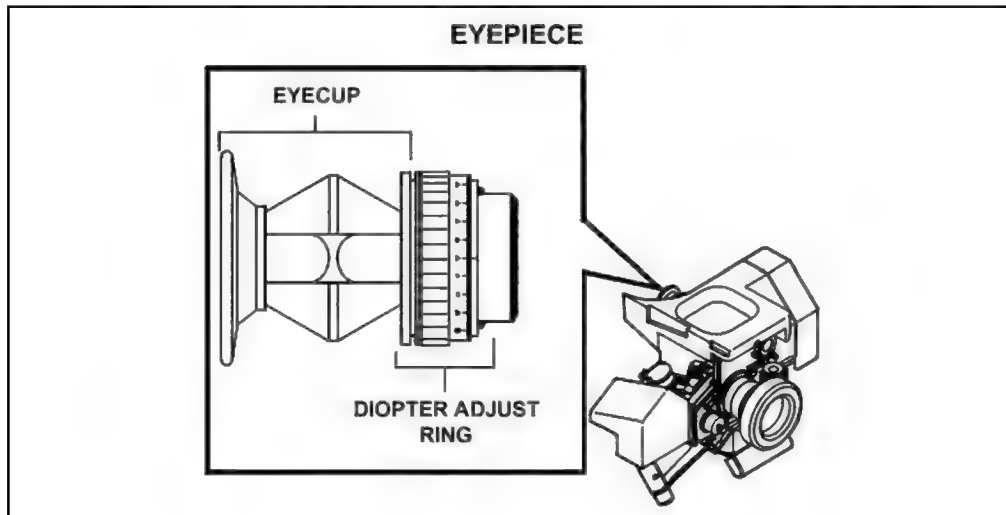

Figure 1-14. Eyepiece.
(4) The eyepiece (Figure 1-14) allows the gunner to see the CLU display. Through the eyepiece, the gunner sees the DAY FOV, WFOV, NFOV, seeker FOV, and the status indicators. The eyepiece consists of a lens assembly, eyecup, and diopter adjust ring.